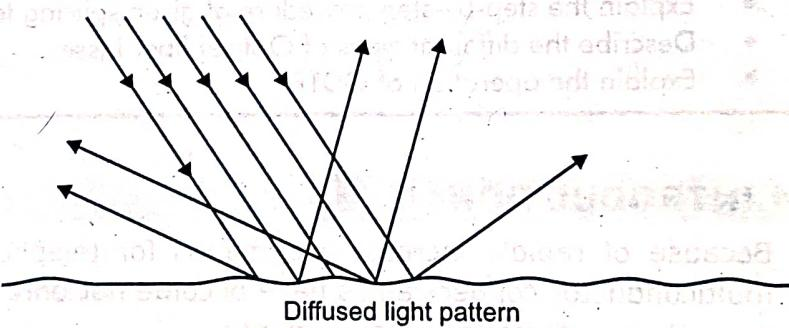

Fig. 2.2: Diffused Reflection
- Reflections in many directions are called **diffuse reflections** and the result of light being reflected by an irregular surface shown in Fig. 2.2.